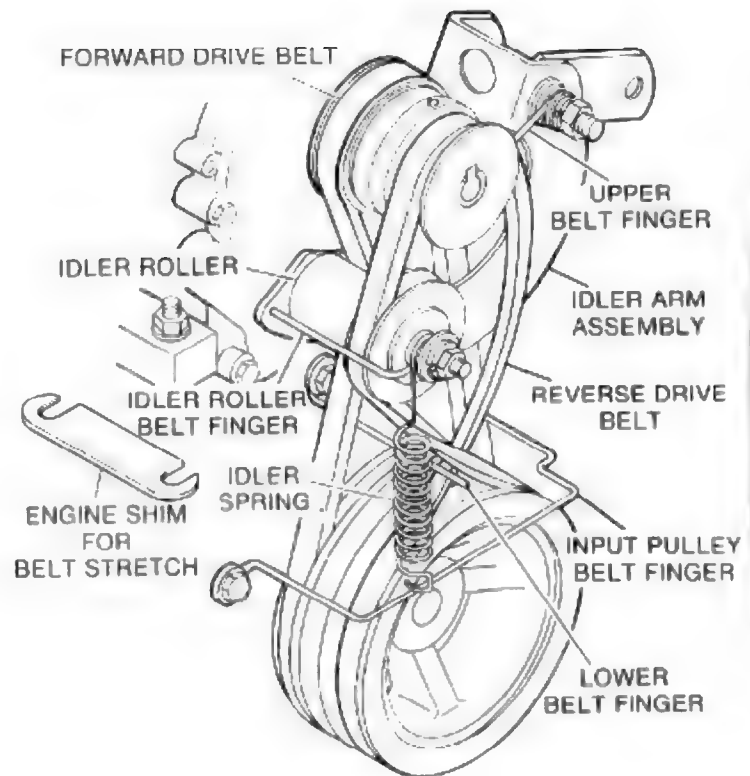

FIG. 16
2. Unhook the long end of spring from the idler arm assembly, Fig. 16.
3. Remove the input pulley belt finger, Fig. 16.
4. Remove the belt finger from the idler roller, Fig. 16.
5. Remove the reverse drive belt. **Notice** how the reverse belt is twisted around the pulleys, Fig. 16.
6. Remove the forward drive belt from pulleys and replace with new belt, Fig. 16.
5. Remove the reverse drive belt from pulleys and replace with new belt, Fig. 16. **Notice** how the reverse belt is twisted around the pulleys, Fig. 16.
3. **Idler Roller** — Lubricate the idler roller, Fig. 16. Saturate the bearing wick, Fig. 18, with S.A.E. #30 wt. oil once a season for average home use.